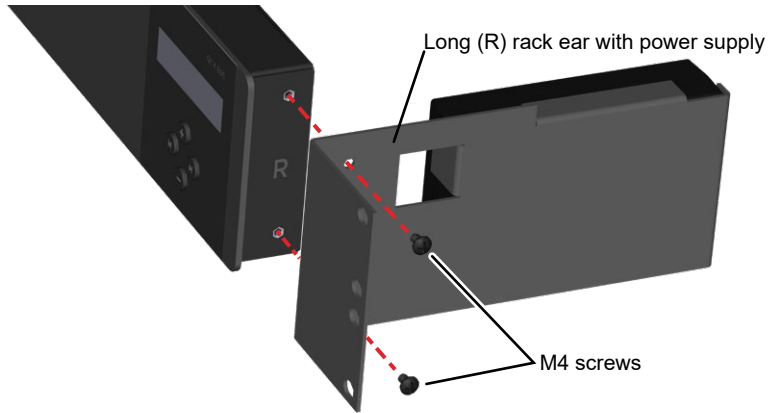

Figure 6. Remove rack mount brackets from the controller
1. If necessary, remove the existing rack mount brackets from the controller and reserve the M4 screws to attach the wall mount bracket (Figure 6).